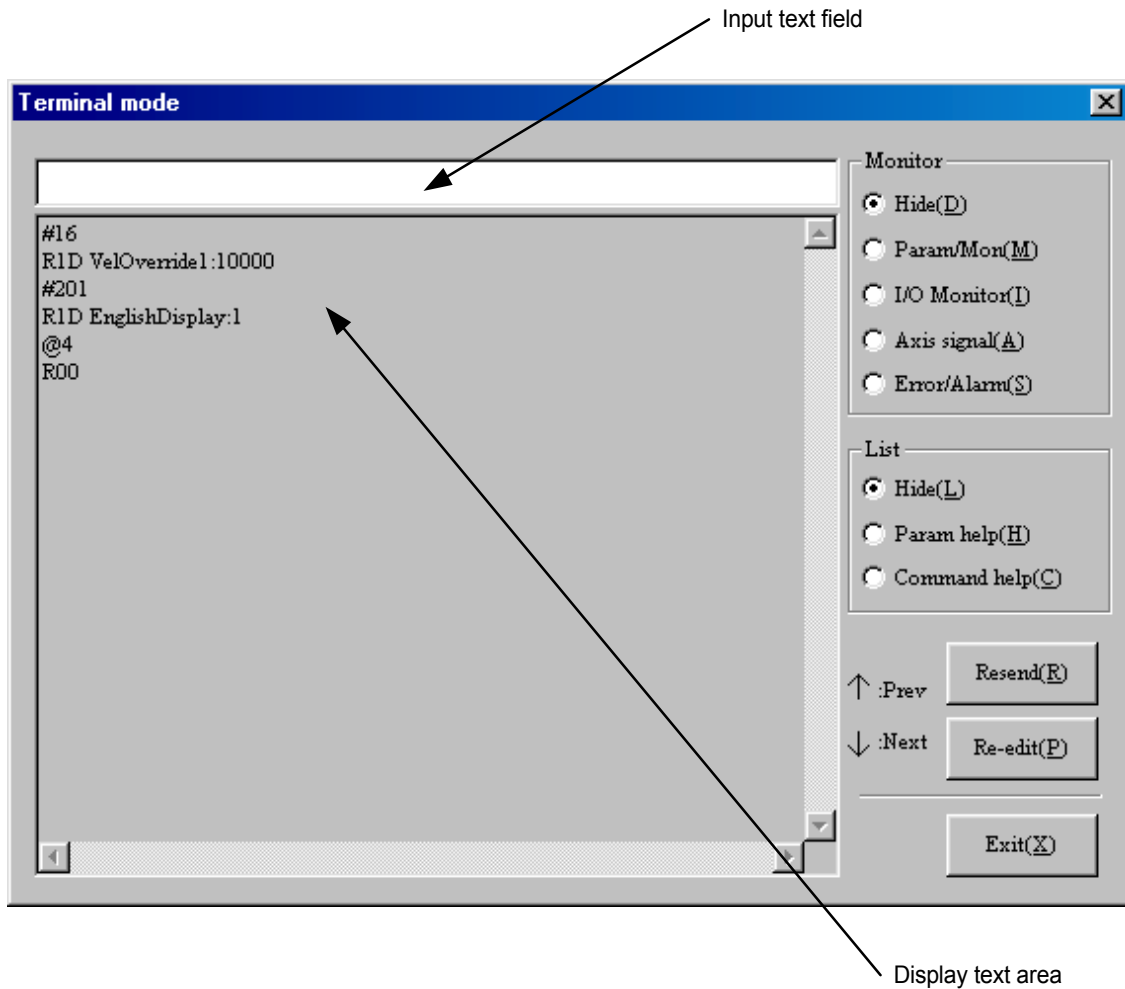

Figure 8.9 “Terminal” dialog box
Click “*Terminal (T)*” under “MainMenu” to display the “Terminal” dialog box (see Figure 8.9).